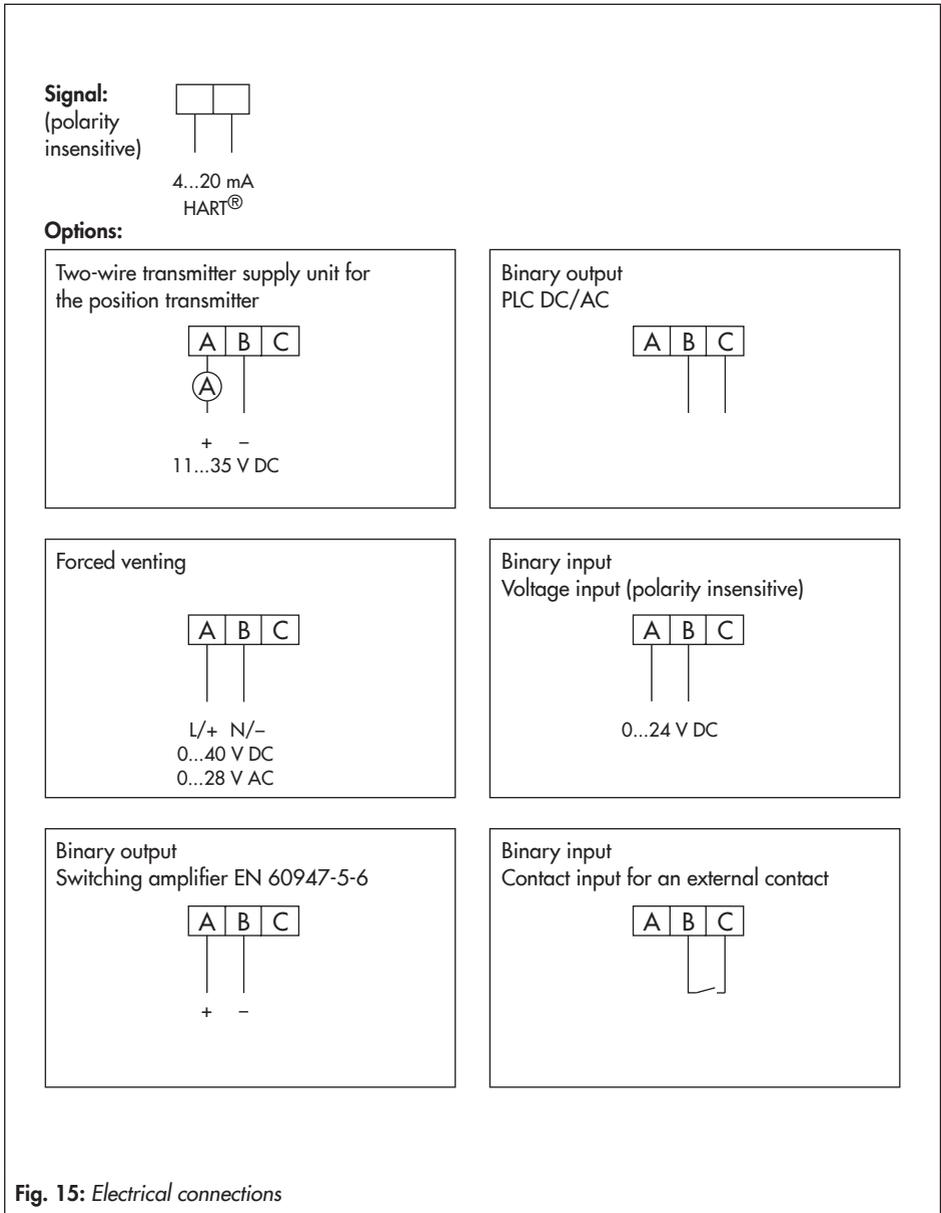

Fig. 15: Electrical connections
3. Connect wires to the terminals as shown in the wiring diagram to the enclosure terminals (see Fig. 15 on page 53).